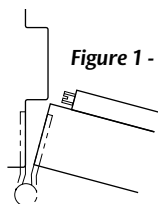

Figure 1 - Surface Mounted
7. For surface mounted installation, the plunger contacts the stop (as shown in Figure 1).